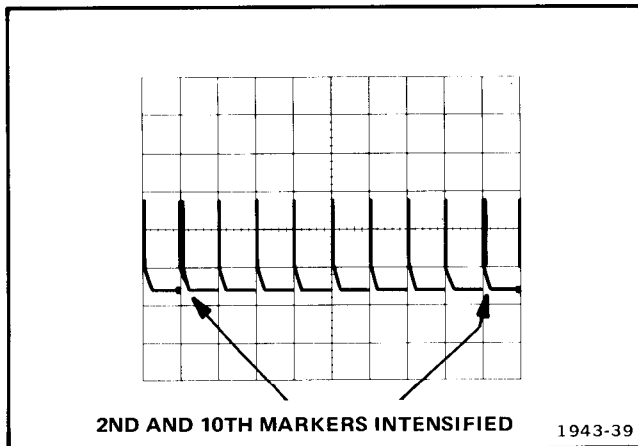

Fig. 6-15. Rough sweep start and stop.
- ADJUST—R713 so intensified zone starts at second marker (see Fig. 6-15).
- ADJUST—R715 so intensified zone starts at tenth marker (see Fig. 6-15).